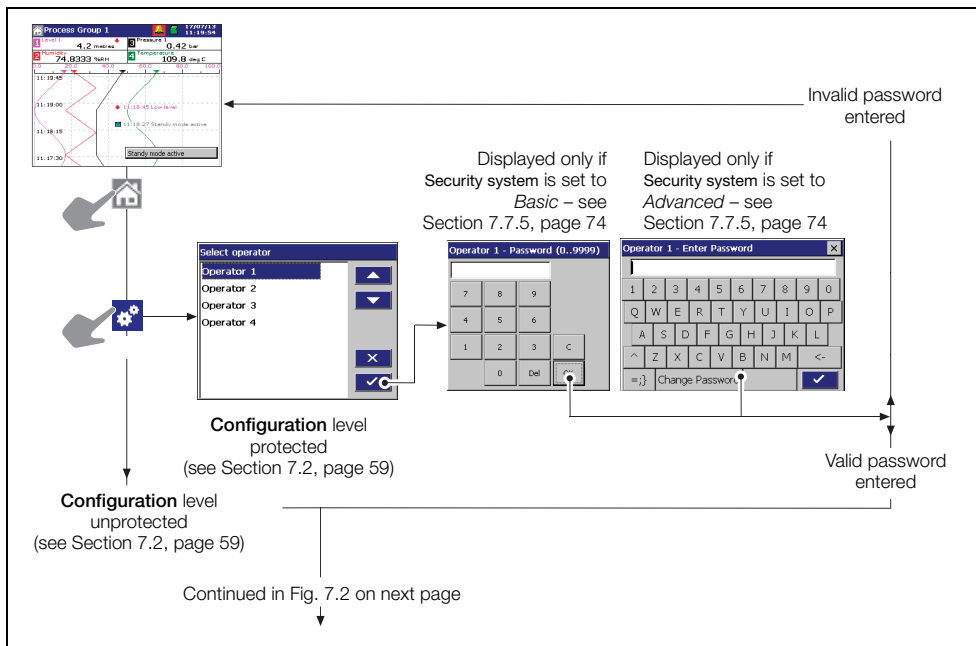

Fig. 7.1 Accessing the configuration level
The **Configuration** level cannot be accessed until the correct password has been entered – see Figs. 7.1 and 7.2, pages 60 and 61 respectively.
1. Access the **Configuration** level – see Figs. 7.1 and 7.2, pages 60 and 61 respectively.
2. Access the **Configuration** level – see Figs. 7.1 and 7.2, pages 60 and 61 respectively.